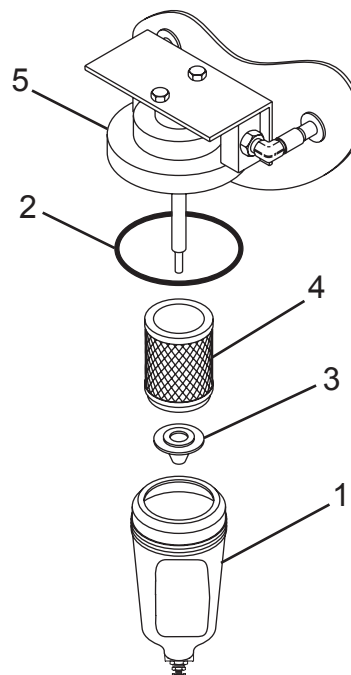

Figure 6
2. Remove (unscrew) the bowl assembly (Figure 6, Item 1) and O-ring (Figure 6, Item 2).
3. Remove the retainer (Figure 6, Item 3) and filter element (Figure 6, Item 4) from the head (Figure 6, Item 5).
4. Install a new filter element (Figure 6, Item 4) and retainer (Figure 6, Item 3).
5. Clean the bowl assembly (Figure 6, Item 1) using warm, soapy water.
6. Inspect the O-ring (Figure 6, Item 2). Replace if damaged.
7. Install the O-ring (Figure 6, Item 2) and bowl assembly (Figure 6, Item 1) on the filter head (Figure 6, Item 5).